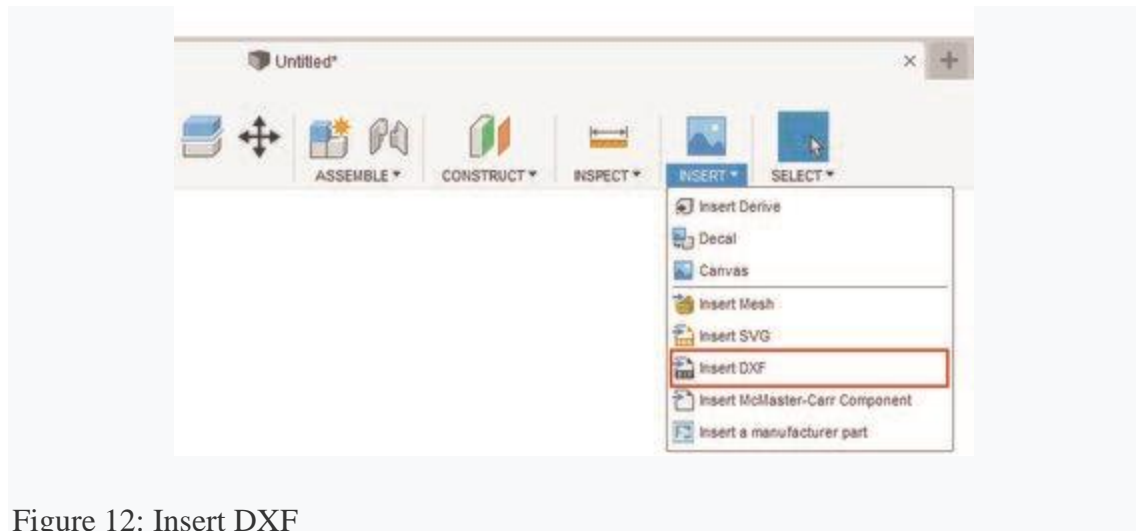

Figure 12: Insert DXF
- b. Select “Insert DXF” under the "Insert" section of the toolbar. (Figure 12)